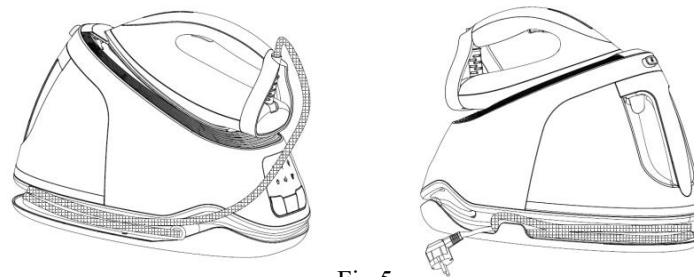

Fig.5
6. Follow the operation as below to store the steam supply hose and power cord as shown in the below picture(see Fig.5)